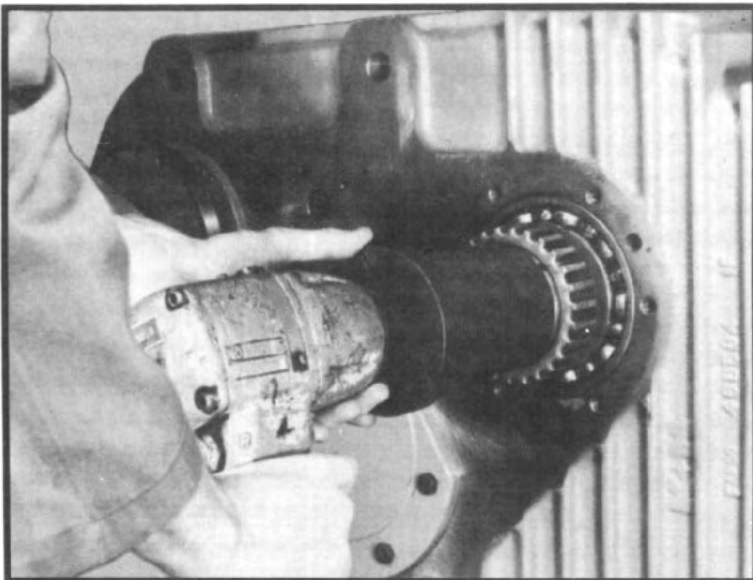

Fig. 54
- 2.20 Remove special nut from inside of clutch gear with special wrench (See tool reference, Section X.) and remove clutch gear from lower shaft. (See fig. 54.)